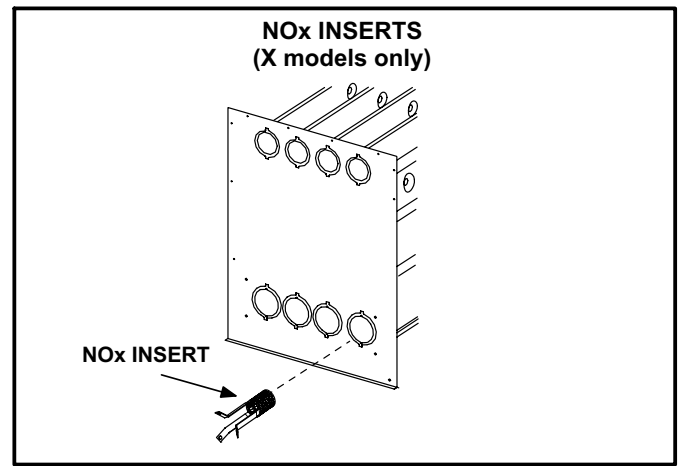

FIGURE 20
- 8 - **NOx units only** - Remove the three screws that attach the NOx insert to the corbel at the entrance to each heat exchanger section. Carefully remove the NOx insert from each section. See figure 20.
- 16- **NOx units only** - Reattach the NOx inserts to the corbels at the entrance to each heat exchanger opening. See figure 20.